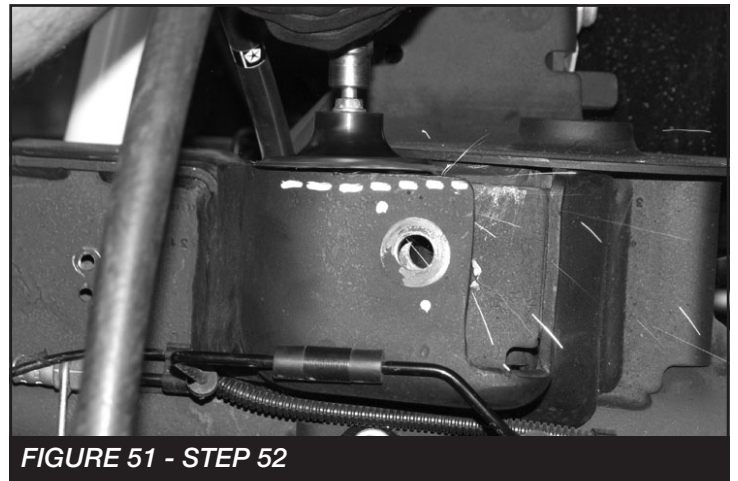

FIGURE 51 - STEP 52
52. Locate the FT44333BK rear track bar support bracket. TRIMMING MAY BE REQUIRED TO INSTALL THE NEW FT44269BK REAR TRACK BAR SUPPORT BRACKET. **SEE FIGURE 51**